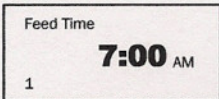

FIGURE 2
STEP 2: Use the up or down arrow keys to change the 12:00pm setting to the correct time of day. (Also make sure you are on the correct AM or PM.) There are no buttons to move the AM or PM. You will have to fully cycle the clock to get to the correct time setting. You can pulse the keys, or to rapidly advance the movement of the time, you can hold the key down and after a moment, the time will begin its rapid advancement. After the correct time of day is on the display, press the SELECT/ENTER button one time. The display should show FIGURE 2. Now proceed to STEP 3.